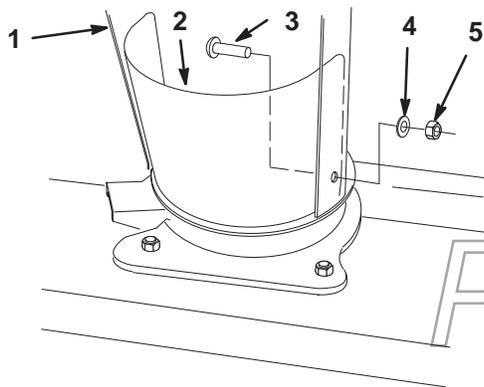

Figure 4
- Install the lower discharge chute and deflector shield onto the housing with 3 carriage bolts (5/16 x 3/4 in.) (heads to the inside), 3 washers (5/16 in.), and 3 locknuts (5/16 in.) (Fig. 4).